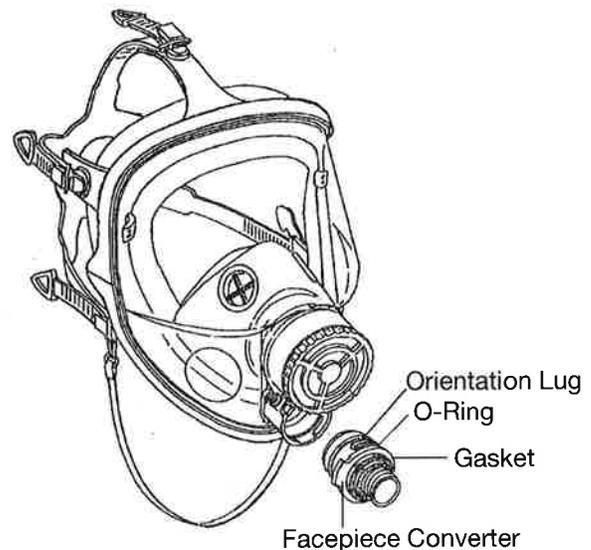

Figure 2
- 2a) Make sure the o-ring on the Facepiece Converter is in place (See Figure 2).
- 2b) Attach the Facepiece Converter to the facepiece inlet housing by aligning the orientation lugs and rotating the Facepiece Converter counterclockwise. The locking mechanism will automatically secure the Facepiece Converter (See Figure 2).
- 2c) Make sure that the gasket is in place on the threaded portion of the Facepiece Converter (See Figure 2).